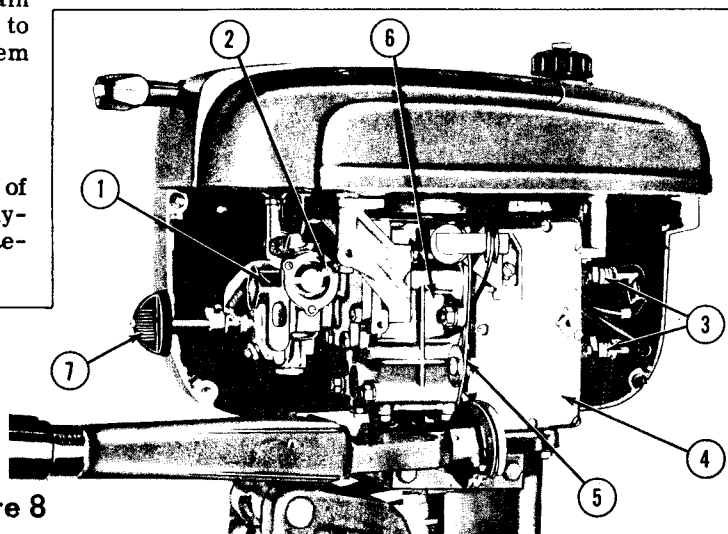

Figure 8
The carburetor is adjusted for both high and low speed operation at the factory. If further adjustment is necessary proceed as follows: With port motor cover removed, start motor as previously instructed, set gear shift lever in FORWARD and operate at FAST, adjust carburetor knob until motor runs smoothly. Now move speed control grip to SLOW. Turn low speed adjusting screw, located on right hand side of carburetor (item 2, Figure 8) toward RICH or LEAN until satisfactory low speed performance is obtained.